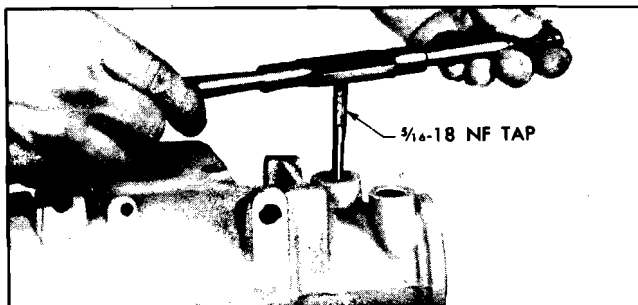

Fig. 9-67 Tapping Connector Hole
7. If connectors are to be removed, tap threads in holes of connectors, using 5/16-18 NF tap (Fig. 9-67).